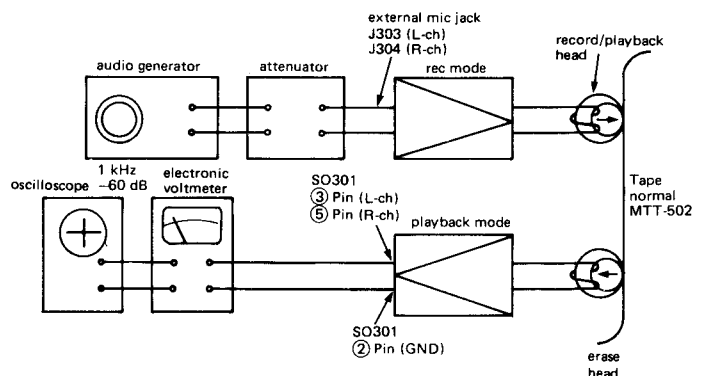

Figure 16-5
- 1) Make connection of instruments as shown in Fig. 16-5.